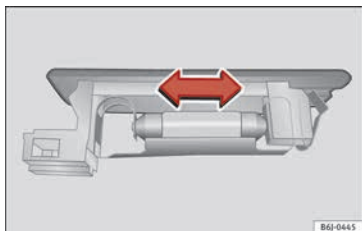

Fig. 119 Boot light.
- Press the bulb sideways and remove it from its housing »» **Fig. 119.**